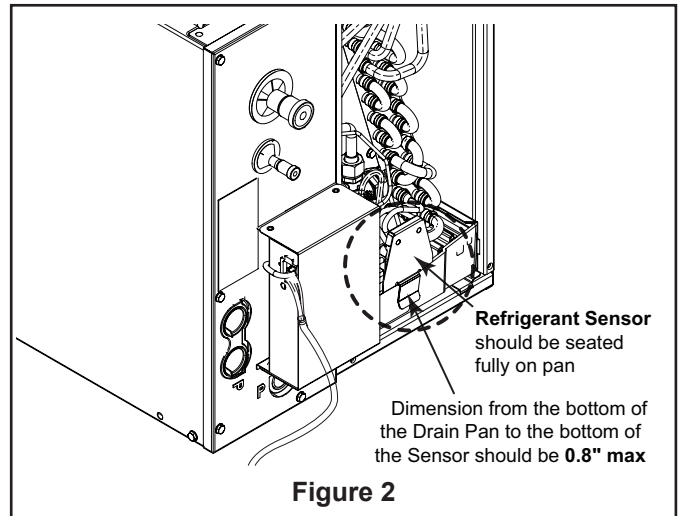

Figure 2
- UPFLOW COIL CONVERSION: Ensure the refrigerant sensor is attached to the primary pan per Figure 2. The sensor should face inward toward the coil and may be positioned anywhere of the front lip of the pan. Ensure the mounting bracket is seated as far down on the pan as possible.
- a. Ensure the refrigerant sensor is attached to the primary pan per Figure 2. The sensor should face inward toward the coil and may be positioned anywhere of the front lip of the pan. Ensure the mounting bracket is seated as far down on the pan as possible.